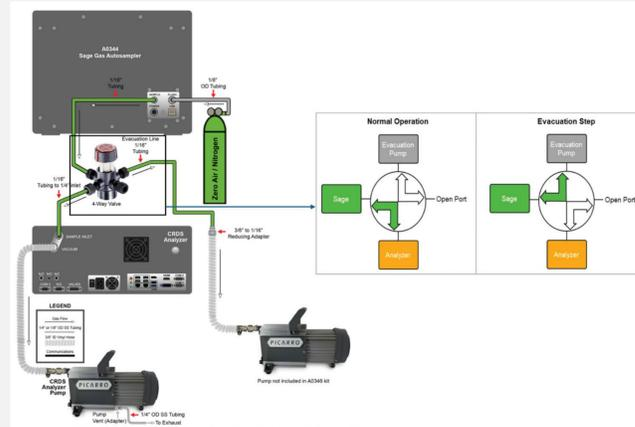

Fig. 3. Sage Gas Autosampler's automated vial evacuation set-up
- Users can choose to install the auto-evacuation method using the Sage Sample Preparation Kit A0346 (Fig. 3).